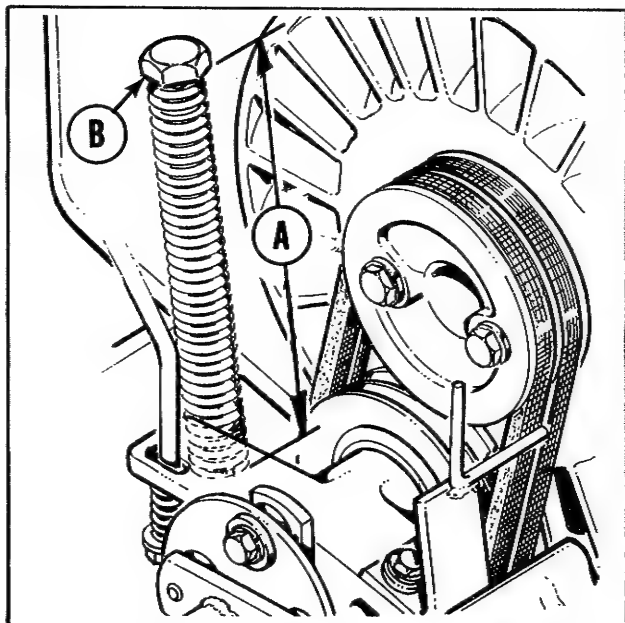
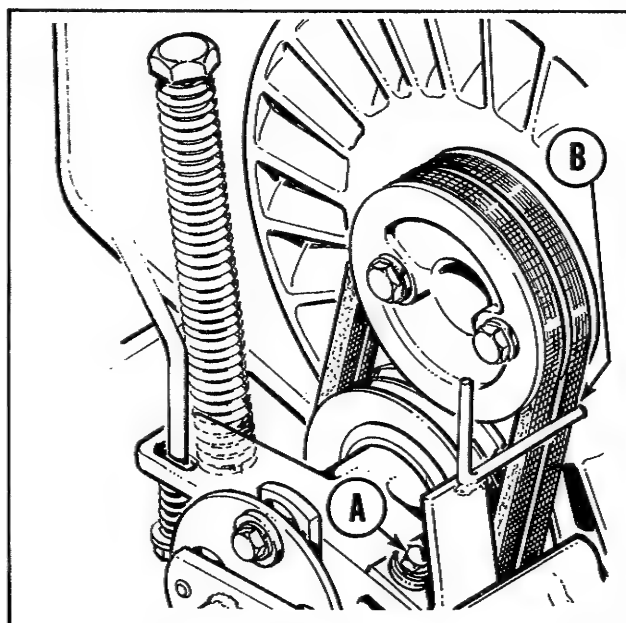

Figure 7. Traction clutch belts located under oil cooler.
Figure 9. Belt stop located under oil cooler.
See figure 7. The clutch (drive belt) tension is determined by the distance from the casting at the base of the clutch tension spring to the top of the spring. This distance (A) shown in figure 7 should be 8 inches. As the belts wear, this distance may increase, causing tension on the belts to decrease and allowing them to slip. To adjust the main drive belt tension, proceed as follows:
4. Use a ruler or tape graduated in inches to measure the distance (A) from the casting surface to the top of the spring as shown in figure 7.
5. If the spring height (A) is greater than 8 inches, turn the hexagon nut (B) above the spring clockwise until the distance is 8 inches. If the height is less than 8 inches turn the hexagon nut counter-clockwise.
6. The belt stop (figure 9) should be adjusted whenever the traction clutch belt tension is adjusted or if the clutch does not disengage completely when the clutch pedal is depressed. Using a 1/2" wrench, loosen the cap screw (A) and adjust the belt stop (B) so there is 1/16" clearance between the belt stop and each belt when the clutch pedal is released. Tighten the cap screw securely.